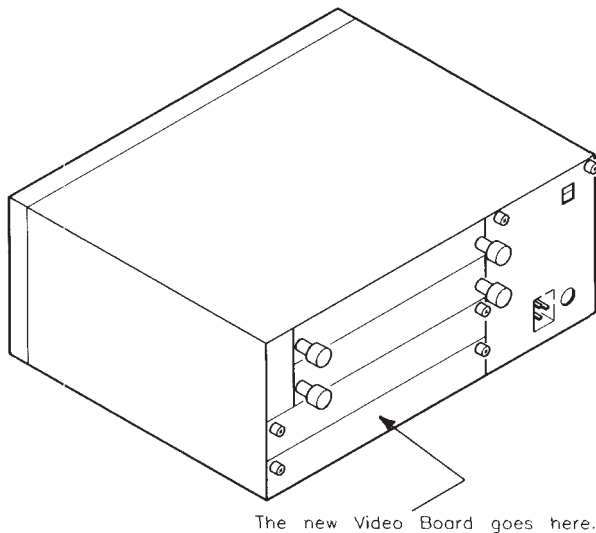

Figure 5-38.
- b. Remove the existing video board or empty slot cover plate from the bottom wide slot on the back of the computer (see Figure 5-38). You may need a Pozidriv screwdriver to loosen it.